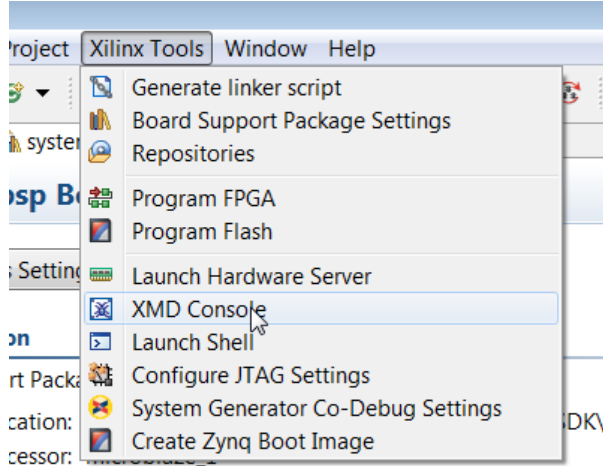

Figure 143: Xilinx Tools: XMD Console Option
4. Start the XMD Console by selecting **Xilinx Tools > XMD Console** (Figure 143).